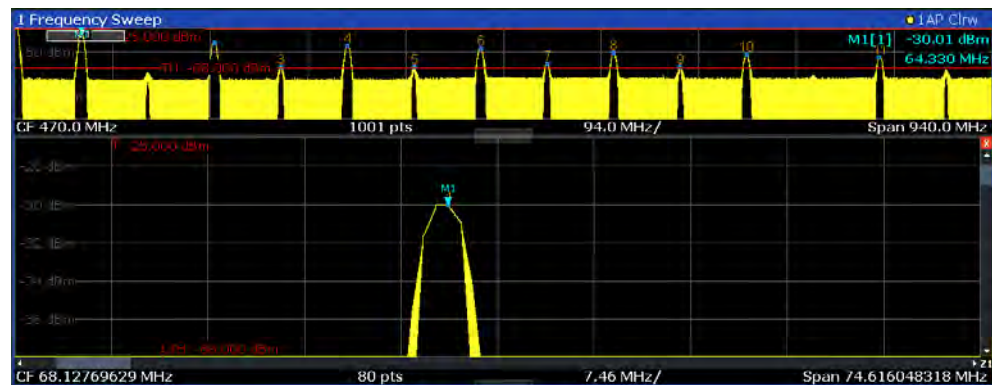

Figure 4-20: Zoomed display around a peak
3. In Figure 4-20, the enlarged peak is represented by a very thick trace. This is due to the insufficient number of sweep points. The missing sweep points for the zoomed display are interpolated, which provides poor results. To optimize the results, we will increase the number of sweep points from the default 1001 to 32001.